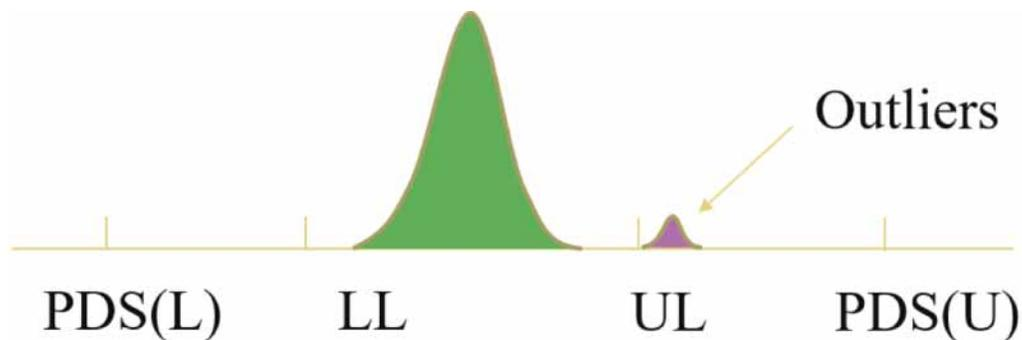

Figure 2. Graph explaining the concept of outlier components for a hypothetical parameter.
A chip manufacturer will typically create two sets of test limits: one external, and one internal. The external limits will be based on the product specification, and the internal limits will be based on data acquired during the silicon validation process. The internal limits will typically be tighter than the external limits. More specifically, the internal limits will be set according to the distribution type, the process capability index (Cpk) requirements used in the manufacturing process, and the customer Defect Parts Per Million (DPPM) requirements. One can then use outlier methodologies to improve the DPPM levels and reliability by eliminating devices that fall outside the distribution, but lie within the external limits, denoted by the Product Data Sheet upper and lower limits (PDS(U) and PDS(L)). To illustrate what we mean by outliers, see Figure 2. One method to use that can provide tighter control is Dynamic Part Average Testing.